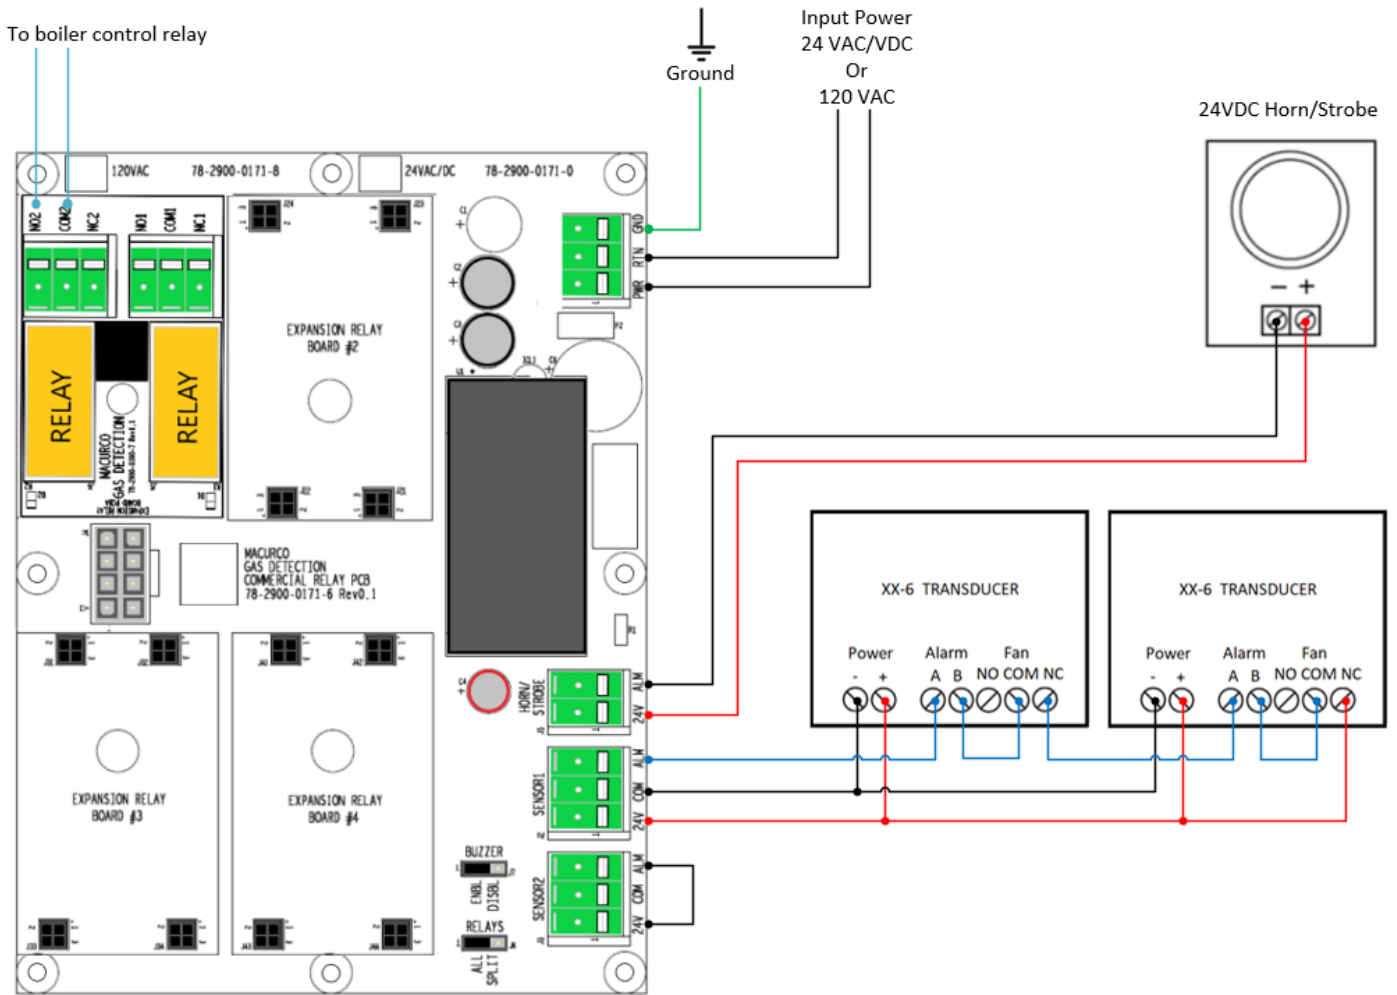
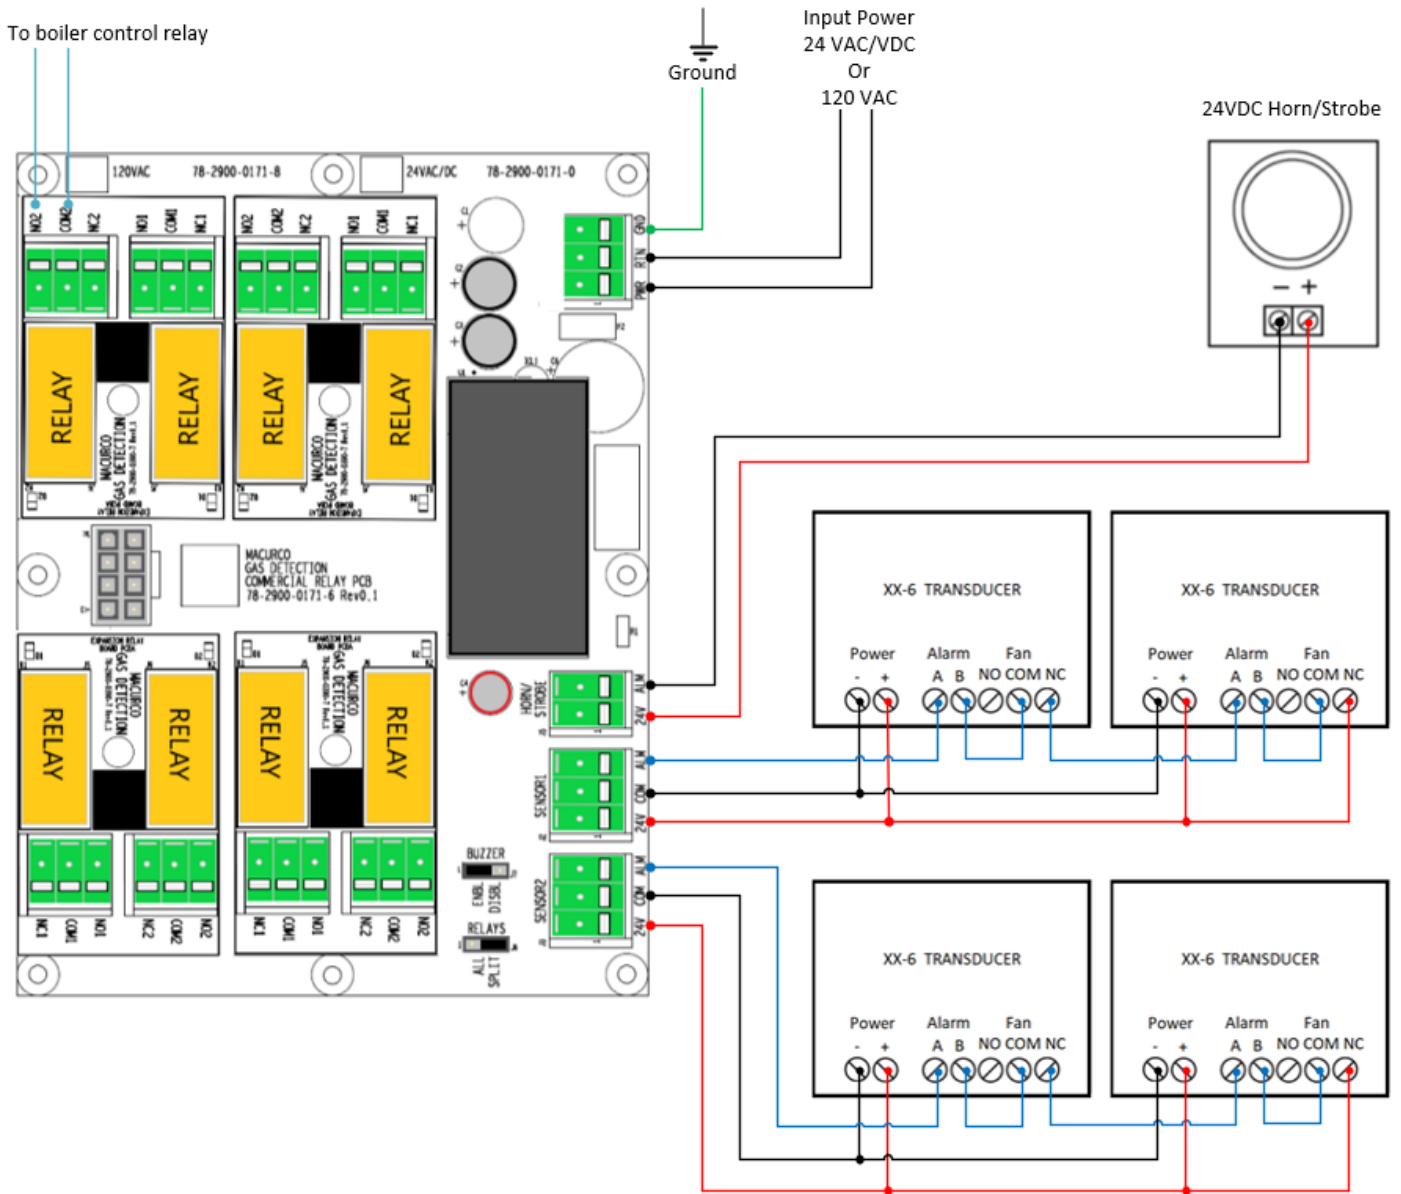

Figure 3-6 – Single Sensor Channel Wiring
Figure 3-7 – Dual Sensor Channel Wiring
There are two sensor connections on the GBC. These connections provide power to the respective units and monitor the normally close circuit that controls the GBC. The GBC can support up to four Macurco 6-Series gas detectors (350 mA max) in any combination. The sensors must be wired in series for the normally closed circuit to operate correctly. See Figure 3-6 and Figure 3-7.
**Note:** If not using Sensor Connection 2 with a gas detector a jumper wire or zero-ohm resistor is needed between alarm and 24 V. A zero-ohm resistor is factory populated in the Sensor Connection 2; a jumper wire can be used as in place of the zero-ohm resistor. See Figure 3-6.
The horn/strobe output provides 24 VDC power to a remote horn/strobe (250 mA Max). The horn/strobe will engage during the same time the onboard relays are set to engage based on the detector set point. See Figure 3-6 and Figure 3-7